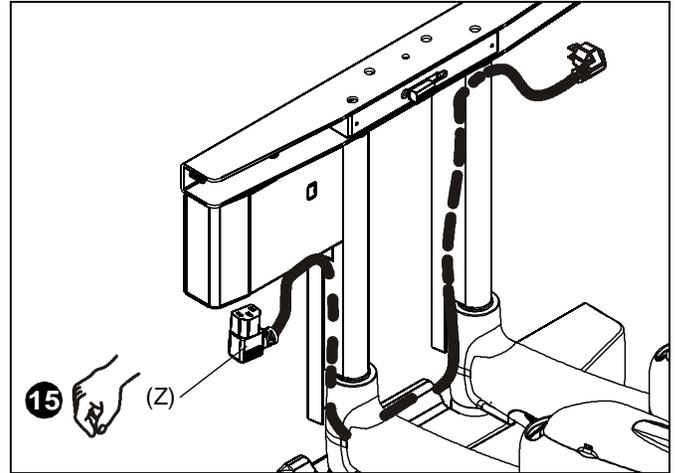

Figure 15
15. Connect and route power cord (Z) through PXR cable management areas. (See Figure 15)